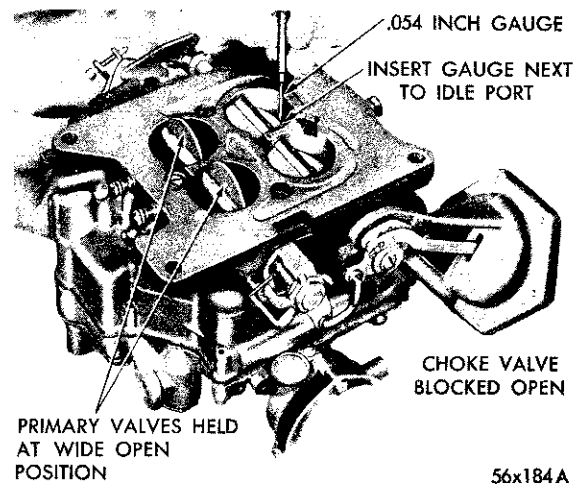

Fig. 79—Checking Opening of Secondary Throttle Valves (Step 1)
- (1) Open primary throttle valves to wide open position. It should then be possible to insert wire gauge Tool T-109-193, (.054 inch), between upper edge of secondary throttle valves, (next to idle port) and bore of carburetor, as shown in Figure 79.